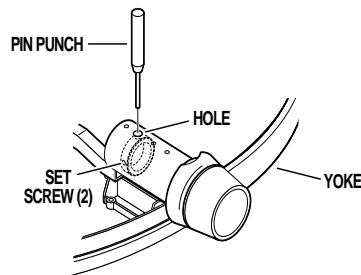

Figure 2-3. Lighthead Pitch Adjustment
b. The lighthead should move freely yet maintain its position without drifting. If an adjustment is required, remove the top cover, refer to figure 2-3 and proceed as follows: